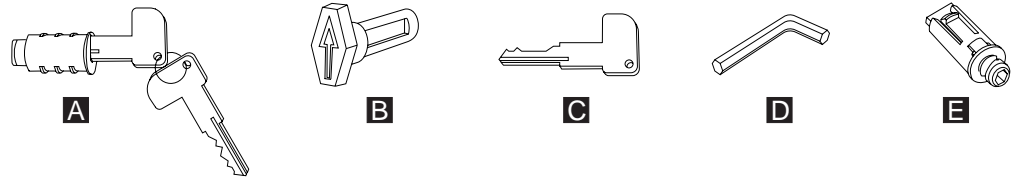

Figure 20. Lock inserts and accessories
2. To remove the lock insert, place the brass installation-removal key (**C** in Figure 20) fully into the lock until you hear it click into place.